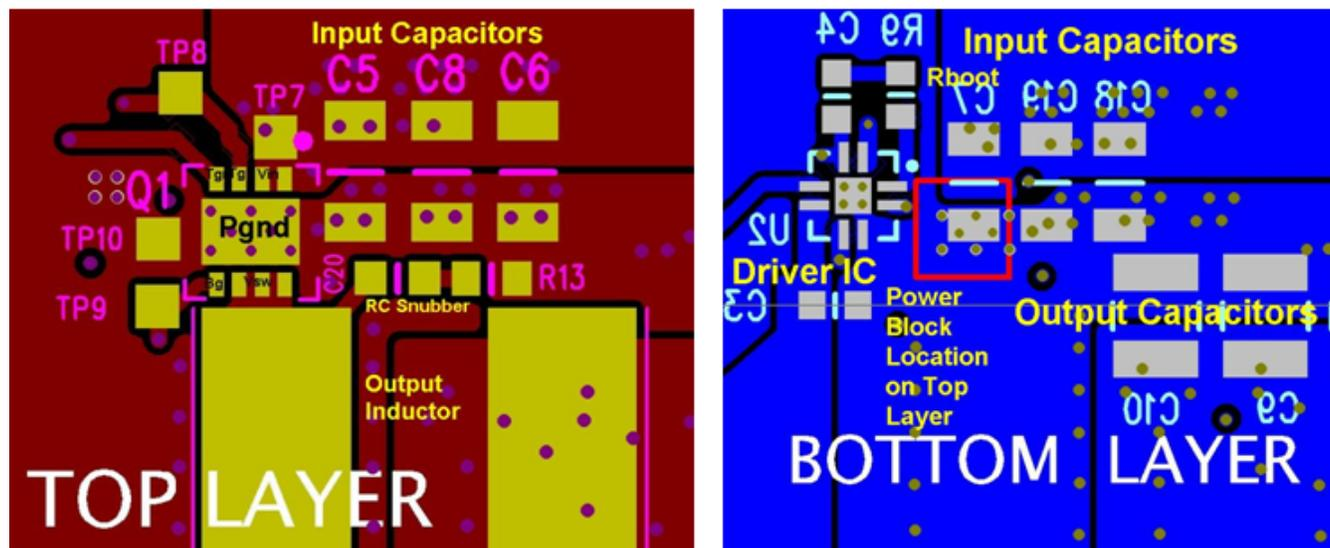

Figure 21. Recommended PCB Layout (Top Down)
- The placement of the input capacitors relative to the Power Block's V_{IN} and P_{GND} pins should have the highest priority during the component placement routine. It is critical to minimize these node lengths. As such, ceramic input capacitors need to be placed as close as possible to the V_{IN} and P_{GND} pins (see Figure 21). The example in Figure 21 uses six 10=μF ceramic capacitors (TDK part number C3216X5R1C106KT or equivalent). Notice there are ceramic capacitors on both sides of the board with an appropriate amount of vias interconnecting both layers. In terms of priority of placement next to the Power Block, C5, C7, C19, and C8 should follow in order.
- The switching node of the output inductor should be placed relatively close to the Power Block V_{SW} pins. Minimizing the node length between these two components will reduce the PCB conduction losses and actually reduce the switching noise level.⁽¹⁾ In the event the switch node waveform exhibits ringing that reaches undesirable levels, the use of a Boost Resistor or RC snubber can be an effective way to easily reduce the peak ring level. The recommended Boost Resistor value will range between 1.0 to 4.7 Ω depending on the output characteristics of Driver IC used in conjunction with the Power Block. The RC snubber values can range from 0.5 to 2.2 Ω for the R, and from 330 to 2200 pF for the C. Please refer to *Snubber Circuits: Theory, Design and Application (SLUP100)* for more details on how to properly tune the RC snubber values. The RC snubber should be placed as close as possible to the V_{SW} node and P_{GND} (see Figure 21).⁽¹⁾
(1) Keong W. Kam, David Pommerenke, "EMI Analysis Methods for Synchronous Buck Converter EMI Root Cause Analysis", University of Missouri – Rolla
- Use the smallest drill size allowed in your design. The example in Figure 21 uses vias with a 10-mil drill hole and a 16-mil capture pad.